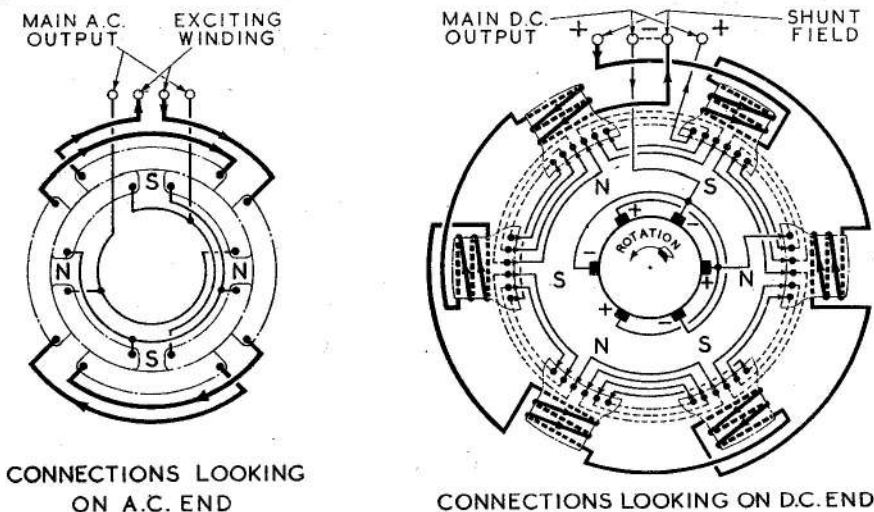

Fig. 4. Diagram of internal wiring
5. The principle of operation of the a.c. section of the generator is discussed in A.P.4343, Vol. 1, Sect. 2. The excitation voltage is 24-29 and the frequency of the a.c. output, which is proportional to the speed of rotation, is 1,200 cycles per second at 3,000 r.p.m. The arrangement of the a.c. winding and the excitation winding is shown in fig. 4. The a.c. output is unaffected by change in direction of rotation of the generator.